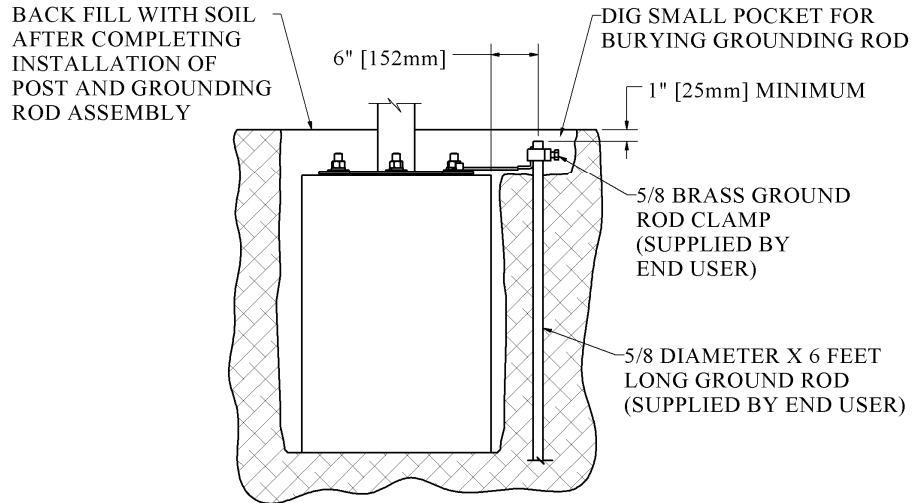

FIGURE 6
9. Dig a small pocket in the ground (See Figure 6) about 3 or 4 inches deep near the copper clamp located on the Post Assembly Base Plate. Ensure the pocket breaks into the hole dug for the concrete.
Note: The 5/8" Dia. X 6' long Grounding Rod and 5/8" Brass Ground Rod Clamp shown in Figure 6 is not supplied, but easily purchased from local hardware stores or most Electrical supply stores.